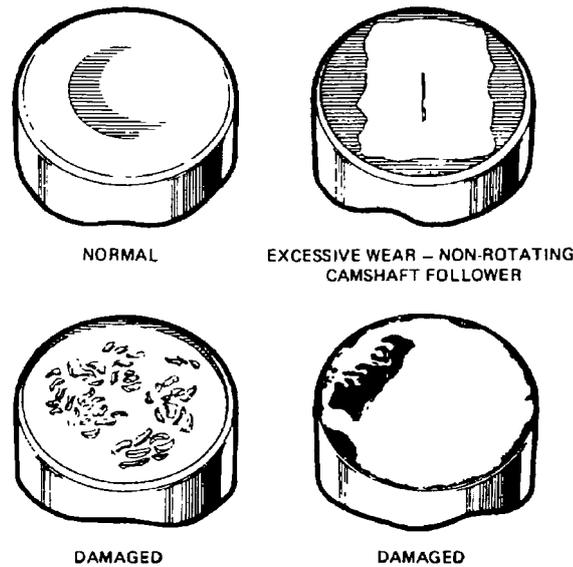
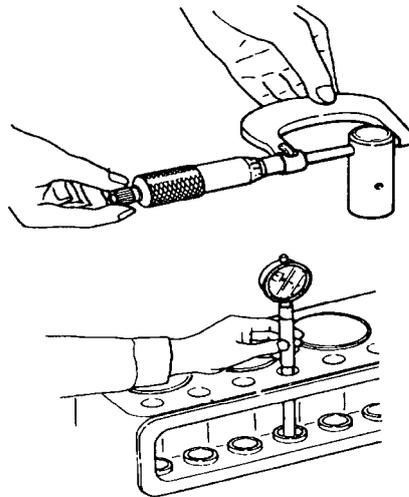

Figure 19 Camshaft Follower Wear Patterns
Figure 20 Measuring Camshaft Follower and Bore Wear
- c. Inspect the camshaft followers for pitting, cracking or wear (Figure 19). If no fault is evident, measure the diameter of the follower with a micrometer (Figure 20). The standard diameter is 27.92 to 27.98 mm (1.100 to 1.1016 in). Replace any follower which is pitted, cracked or has irregular wear, or if the diameter is worn below 27.92 mm.
- d. Measure a camshaft follower bore in the engine block with an internal micrometer (Figure 20) and subtract the diameter of the follower, removed from that bore (if the follower is serviceable), from the dimension found. The standard clearance is 0.02 to 0.1 mm (0.0008 to 0.0039 in). Repeat this procedure for each bore and camshaft follower. If camshaft followers need replacement, determine the clearance using a new follower. Replace the engine block if any bore exceeds the clearance limit.